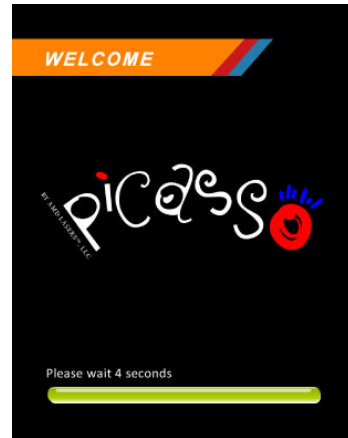

FIGURE 14
- Rotate key clockwise to ON position. The unit will turn on and begin a self-diagnostic routine for 4-5 seconds (FIGURE 14 – Picasso only).